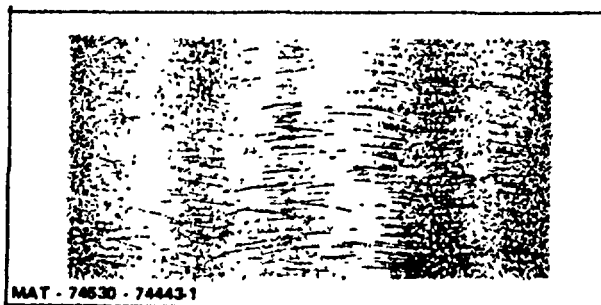

Figure 64. Desirable Cross Hatch Pattern After Cylinder Hone.
3. To get the correct cross hatch pattern (Figure 64) with a cylinder hone, use a top quality electric drill with a speed of 500 RPM or less.
3. Insert hone in cylinder and expand to cylinder wall with slight tension. Using a clean brush, wet cylinder wall and stones with kerosene. Use a hand drill and surface hone cylinder with a rapid up and down motion to produce a good cross hatch pattern (Figure 64). Apply kerosene occasionally as needed and increase tension on hone adjustment until a good pattern and finish are obtained. A smooth finish of 10 to 15 micro inches is desired.